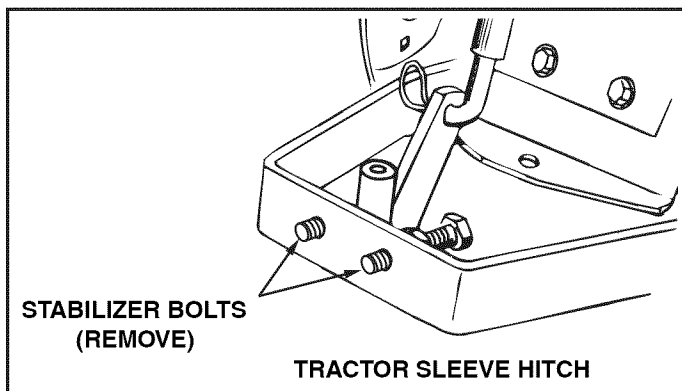

FIGURE 7
- Remove the stabilizer bolts from the tractor's sleeve hitch as shown in figure 7 to allow side to side motion of the disk cultivator.